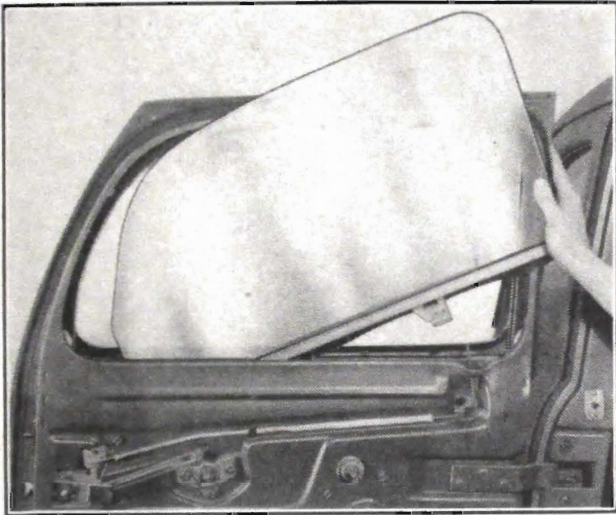

Fig. 1-62. Rear Door Glass Removal—Series 40-60
6. Lift glass, tilt inward at top and remove from the window aperture. See Fig. 1-62.